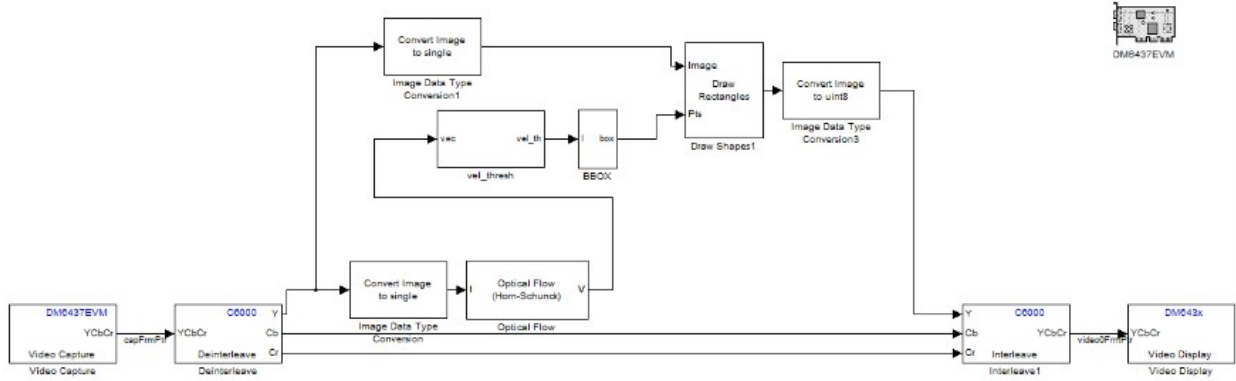

Figure 5: Complete Optical Flow Based Motion Tracking Hardware model.
7. Link Cb and Cr channels between “Deinterleave” block and both of the “Interleave” blocks, as shown in Figure 5.